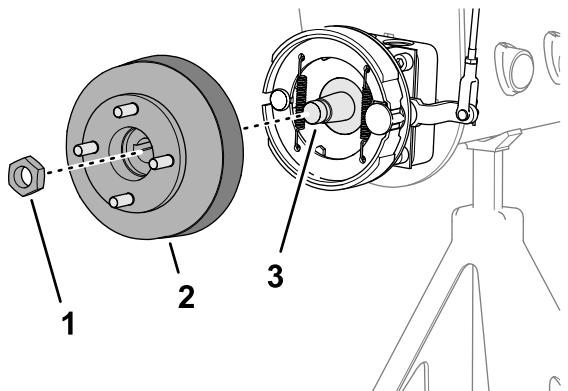
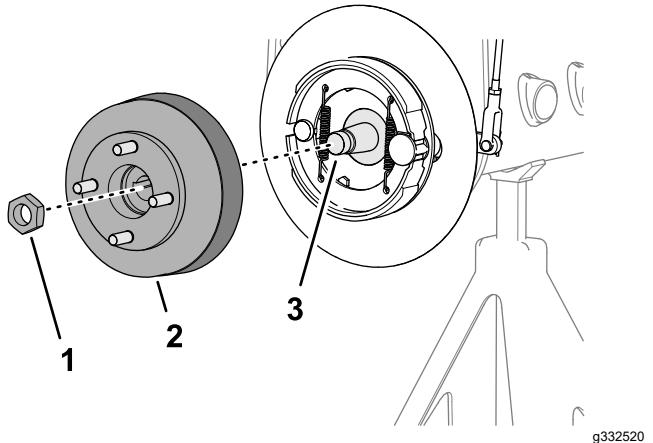

Figure 61
Figure 62
1. Remove the locknut that secures the hub to the wheel-motor shaft (Figure 61 or Figure 62).
4. Use the specified wheel hub puller to remove wheel hub and brake drum from the wheel-motor shaft (Figure 61 or Figure 62).